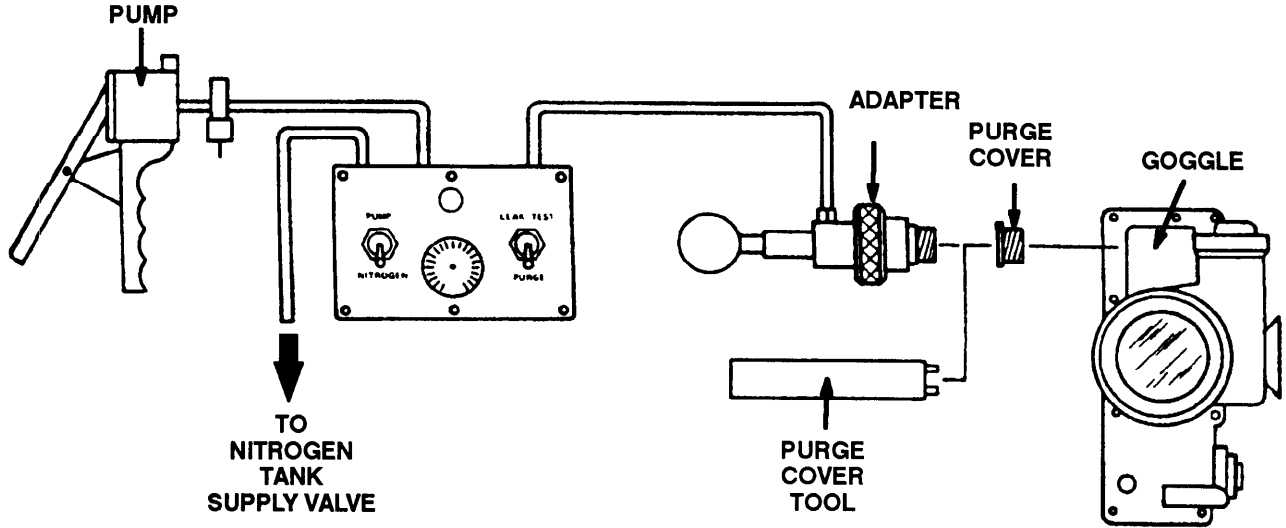

Figure 3-6. Purging Setup.
1. Refer to Figure 3-6 for Setup Diagram.